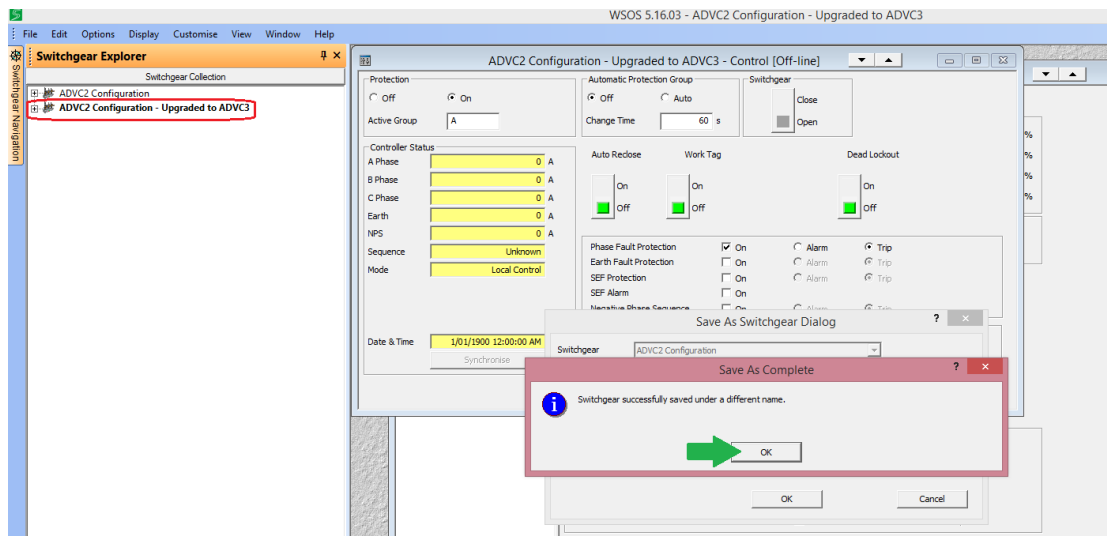

Figure 6: New ADVC3 configuration saved
- Once the new configuration name is entered, click on the OK button. This will then create a new configuration, based on the name provided, as shown in Figure 6. Click on the OK button in the confirmation dialog that is displayed.